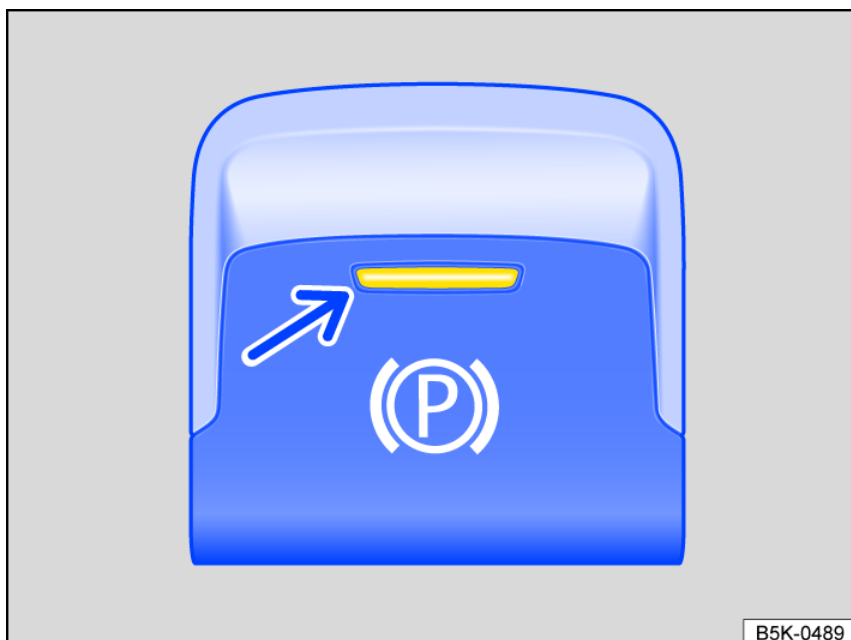

Fig. 134 In the center console: button for the electronic parking brake (general example).
The yellow indicator light in the button comes on fig. 134.
- The indicator light in the fig. 134 switch and the red  or **PARK** indicator light in the instrument cluster go out.